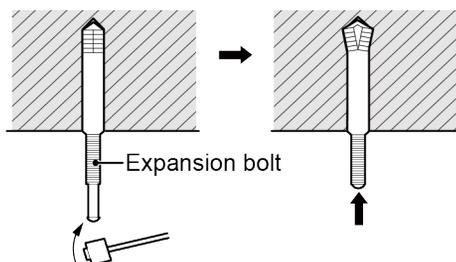

Fig.4.1.4
- 1) Insert the M10 expansion bolt into the hole and then knock the nail into the bolt, as shown in Fig.4.1.4, and then remove the paper pattern.